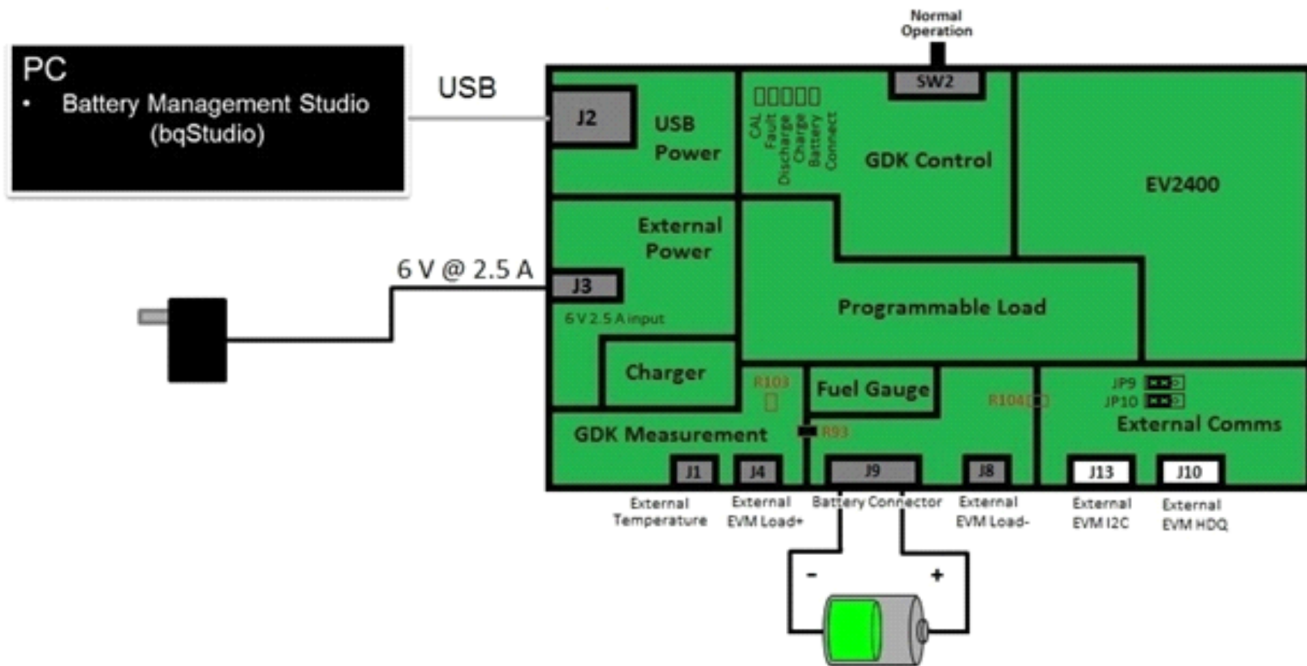

Figure 9. GDK Optional Configuration—Onboard Fuel Gauge
- R93 is populated with a 0-Ω resistor. R93 can be found near the GDK Measurement section (see Figure 9). This connects the GDK load/charger to the onboard fuel gauge.
Figure 9 shows the GDK default configuration.